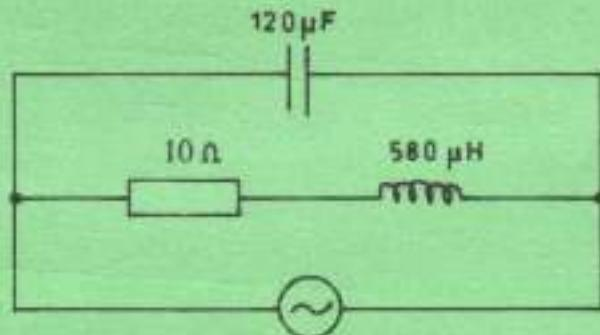

Fig.2
- (c) Figure 2 shows a tuned circuit. Determine the: